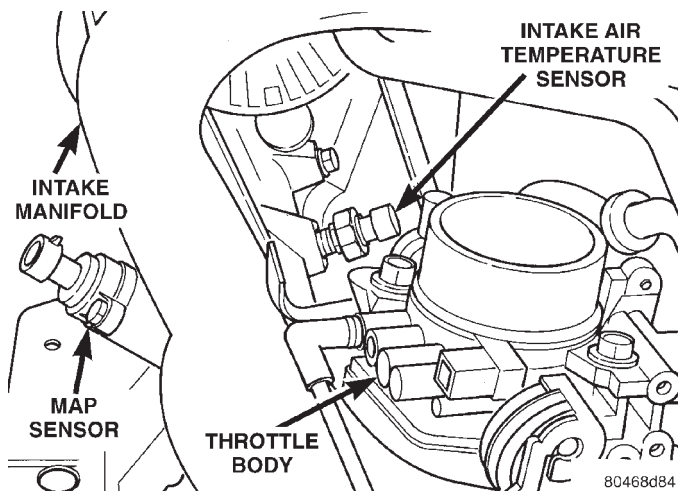
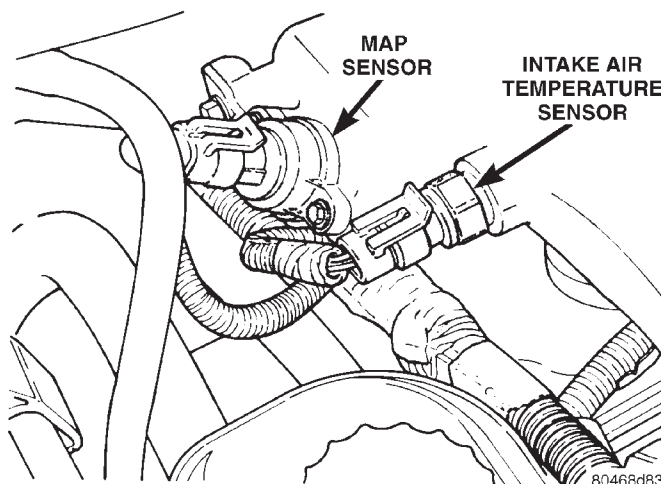

Fig. 58 Intake Air Temperature Sensor and MAP Sensor—2.4L
Fig. 59 Intake Air Temperature Sensor and MAP Sensor—2.5L
The intake air temperature sensor threads into the intake manifold plenum (Fig. 58) or (Fig. 59).
The MAP sensor attaches to the intake manifold plenum (Fig. 58)
- (1) Remove mounting screws from sensor (Fig. 59).
- (2) Unplug harness connector and remove sensor.